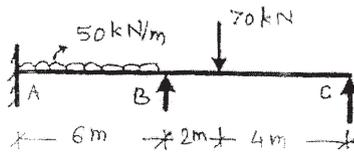

Fig. 9
- Q9)** Analyse the continuous beam shown in figure 9 by Stiffness Matrix Method and draw BMD, SFD and elastic curve. The support 'B' sinks by 15 mm. Take $E = 200\text{GPa}$ and $I = 1600\text{ cm}^4$. [16]